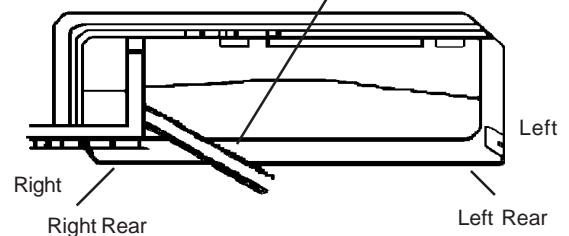

Figure 10
2. Pull out the fitting pipe from bottom case. Use adhesive tape to bind the fitting pipe, electric cable and drain hose and then pass them through the fitting pipe hole. See Figure 10.